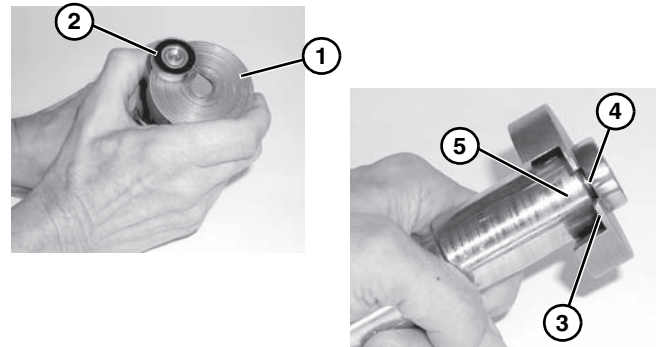

Figure 40
1. Place bearing removal tool (**Figure 40, item 1**) below bearing (**Figure 40, item 2**) with lip (**Figure 40, item 3**) located in gap (**Figure 40, item 4**) between bearing and spindle hub (**Figure 40, item 5**) as shown.